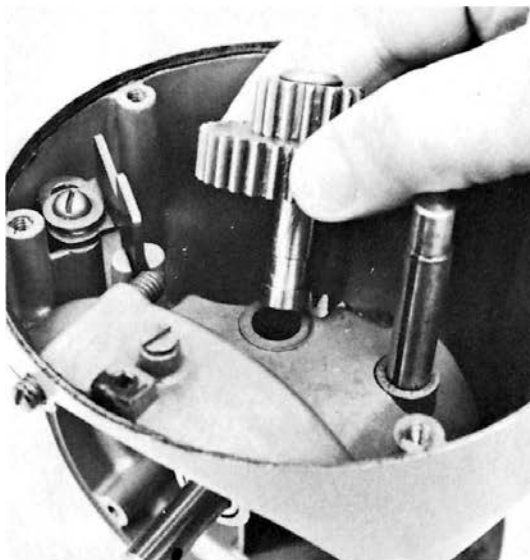

Fig. 3-14
- K. Remove the lower transmission shaft and gear assembly (15T and 31T) (Fig. 3-14).